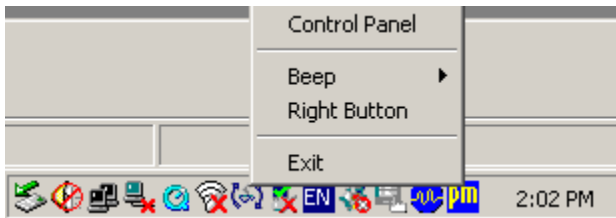

Figure 5-27: PenMount Monitor Popup Menu
**Step 3:** Click the icon. A pop up menu appears. See **Figure 5-27**.
**Step 4:** Click Control Panel in the pop up menu shown in **Figure 5-27**.